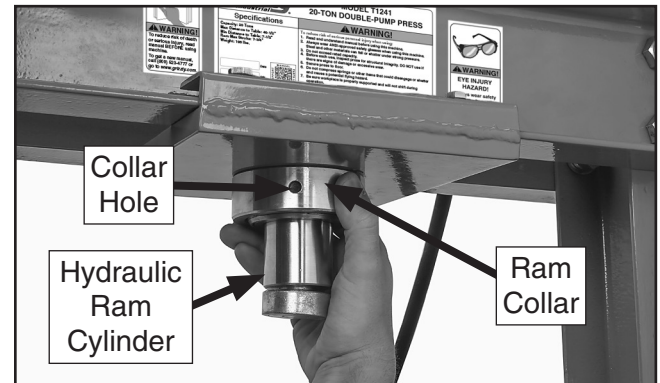

Figure 6. Securing hydraulic ram to mounting plate with ram collar.
5. From above, insert hydraulic ram cylinder through hole in ram mounting plate and thread ram collar into position, as shown in **Figure 6**.